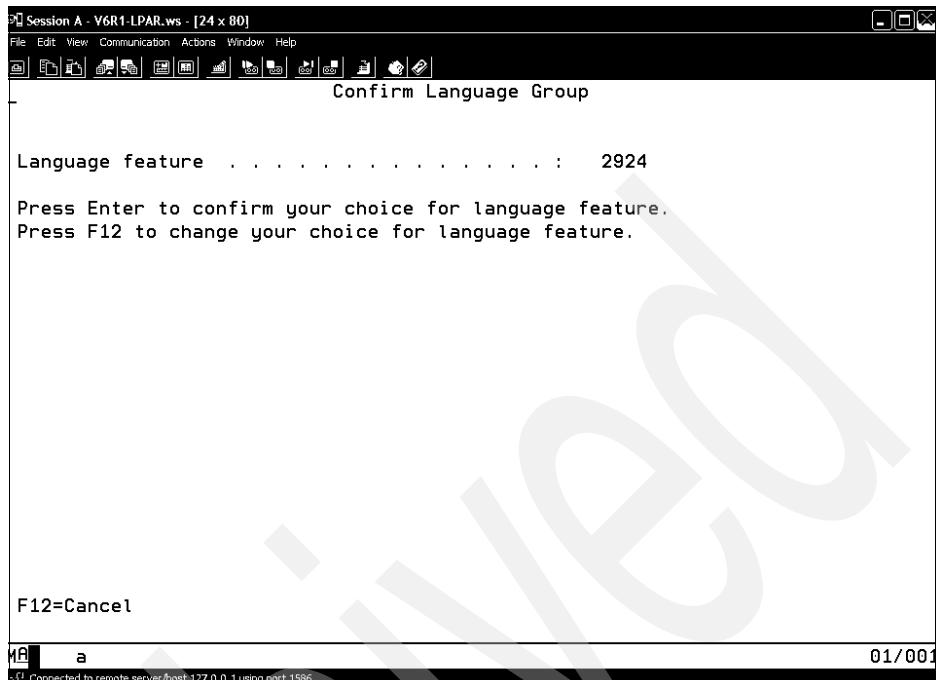

Figure 5-33 Confirm Language setup
4. Depending on the native language, a selection can be made in the following screen as shown in Figure 5-33 on page 252.